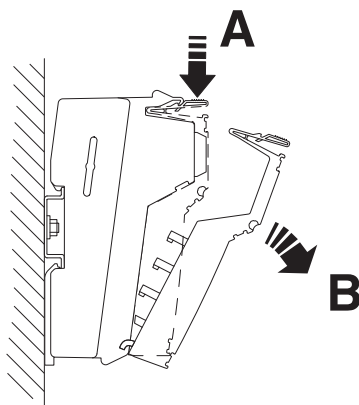

Figure 2-15 Removing the Inline controller (1)
When removing the Inline controller from the DIN rail, proceed as shown in Figure 2-15 on page 31:
- Lever up each connector by pressing on the back connector shaft latching (Figure 2-15, A).
- Remove the connectors (Figure 2-15, B).